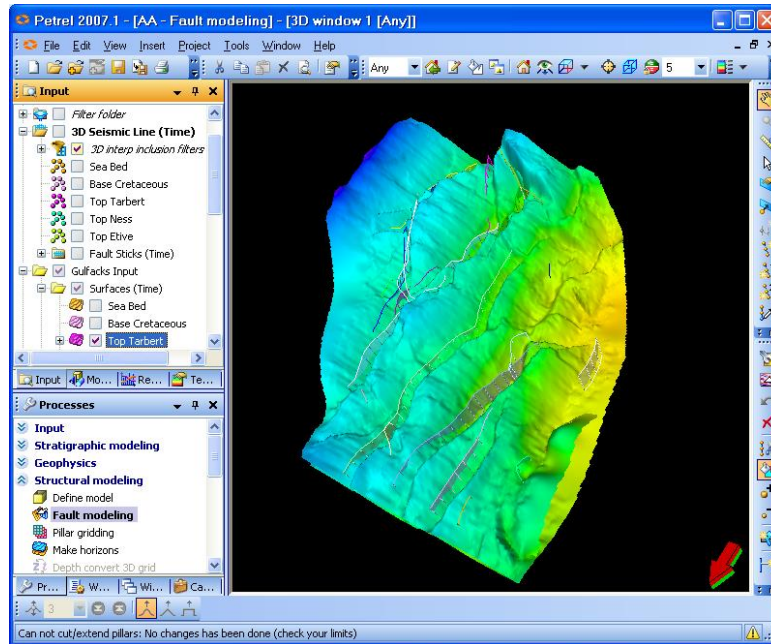

Fig. 11.42: The Top Tarbert and Fault Model displayed in a 3D window after Key Pillar Operations
6. Observe that all the Key Pillars will be cut by or extended to the Base Cretaceous level, generating smooth transitions between Key Pillars. See Fig. 11.42.